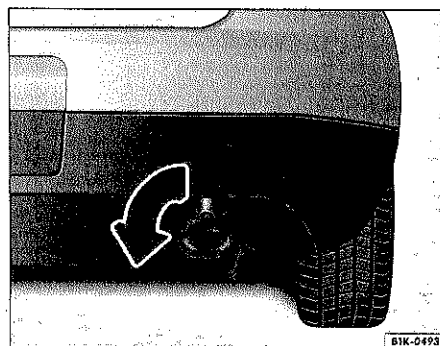

Fig. 53 Rear bumper, right side: mounting the towing eye.
- Screw the towing eye as far as it will go into the threaded hole. Use the grip of the screwdriver to tighten the towing eye ⇒ fig. 53.
- Screw the towing eye into the threaded hole as far as it will go, in the direction shown ⇒ fig. 53 (arrow). Use the lug wrench or other suitable tool to tighten the towing eye ⇒ ①.